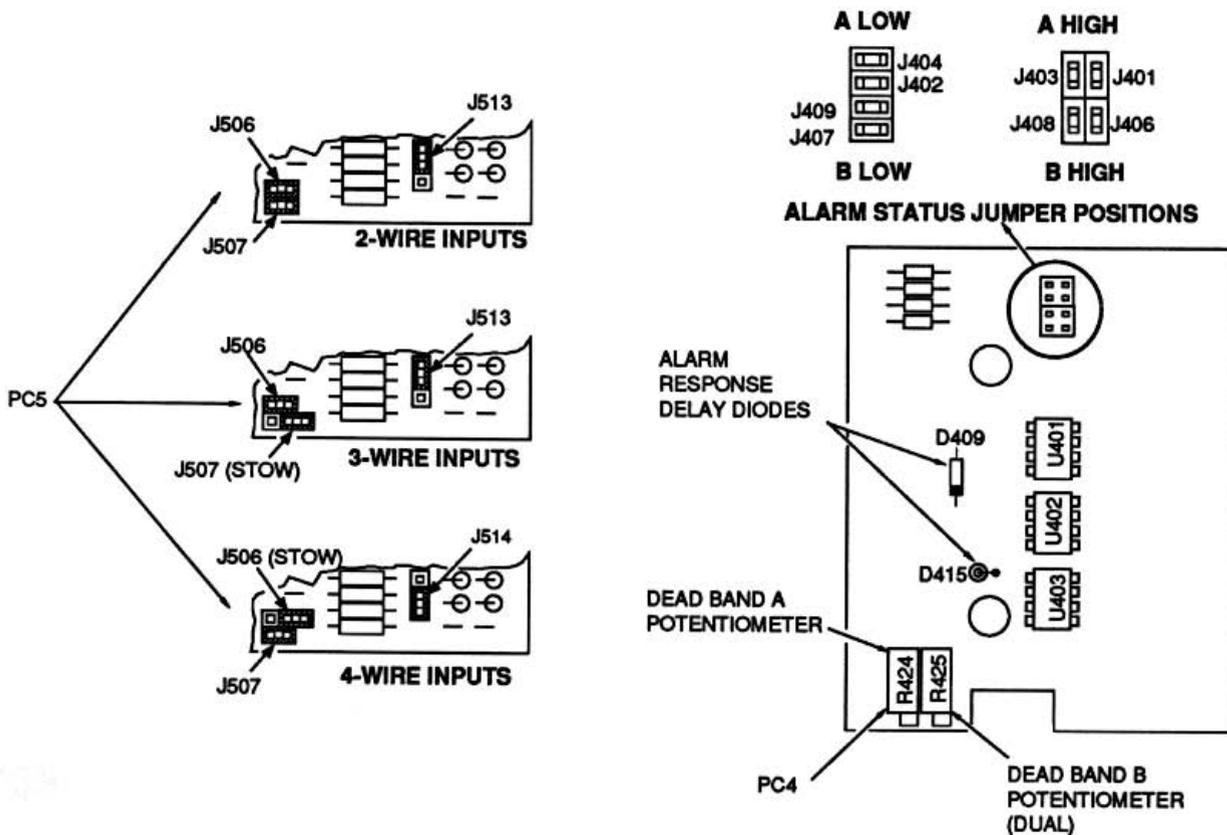

Figure 3. Jumper and Component Location Diagram
1. Verify that jumpers J401 through J409, located on PC4, are set for a high or low alarm, as required. Also, verify that jumpers J506, J507, J513, and J514, located on PC5, are set for 2-, 3-, or 4-wire RTD input, as needed. Refer to table 2 and see figure 3.
1. Turn dead band A potentiometer (R424) fully clockwise. See figure 3.
The Alarm Response Delay (AR) option introduces a time delay in the unit. This makes calibration difficult because the user must wait for the delay time to see if the trip points have been tripped. The delay may be defeated by short-circuiting diodes D409 and/or D415. See figure 3.